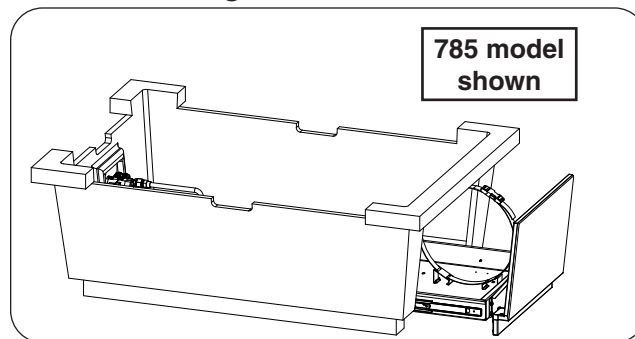

Fig. 32-2 Open drawer (if applicable)
2. If equipped, open the storage drawer. Pull the drawer open until the slides are fully extended. See Fig. 32-2.